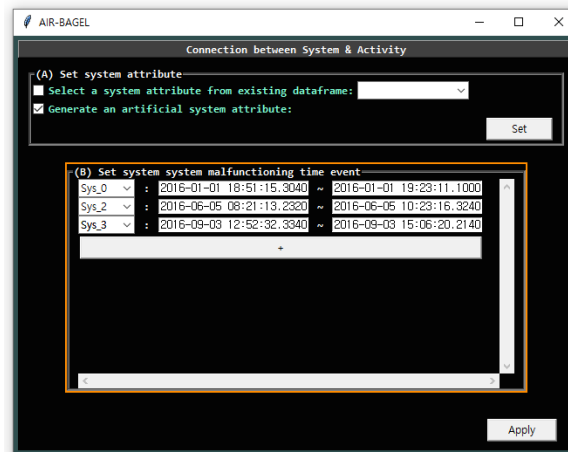

Figure 9 Generating occurrences of system malfunctioning with ‘Self-configuration’ option
**Quick Guide: “Self-configuration” option** (see Fig.9)